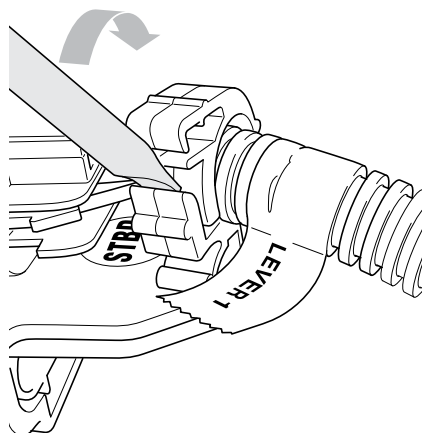
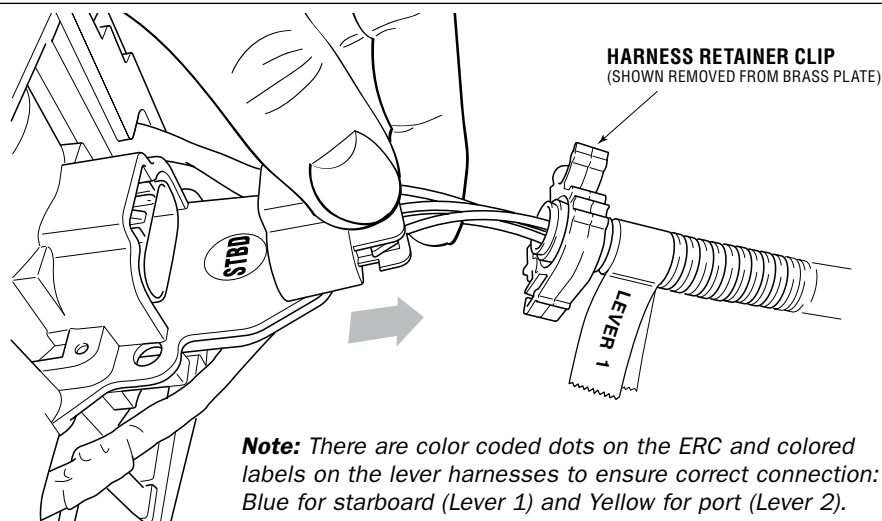

Figure 8-1.
Figure 8-2.
The EST Gateway harness (CM20038) connects to the Lever Position Sensor (LPS) connection on the underside of the Mercury DTS control head. These connections are illustrated in the figure 8-1 and figure 8-2. Although a twin-engine remote control is shown, the connections are identical for a triple or quad engine control.
1. Open the harness retainer clips, located on the underside of the Mercury DTS control head (see figure 8-1).